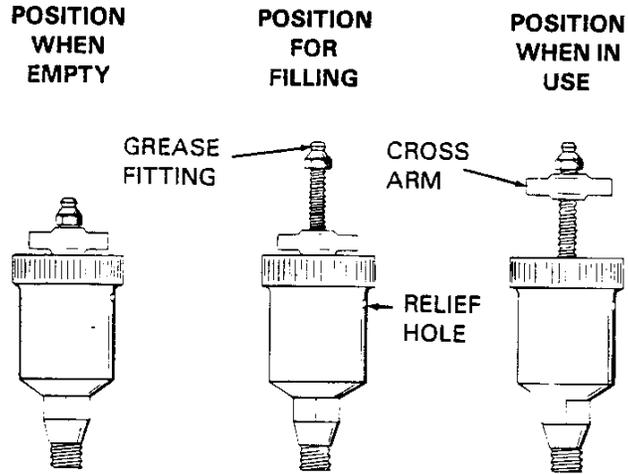

Figure 4. Automatic Lubricating Grease Cup
Before attempting to remove the impeller (2), turn the cross arm on the automatic lubricating grease cup (13) clockwise until it rests against the cover (see Figure 4). This will prevent the grease in the cup from escaping when the impeller is removed.
counterclockwise until it is at the top of the stem; this will release the spring to apply grease to the seal (see Figure 4).